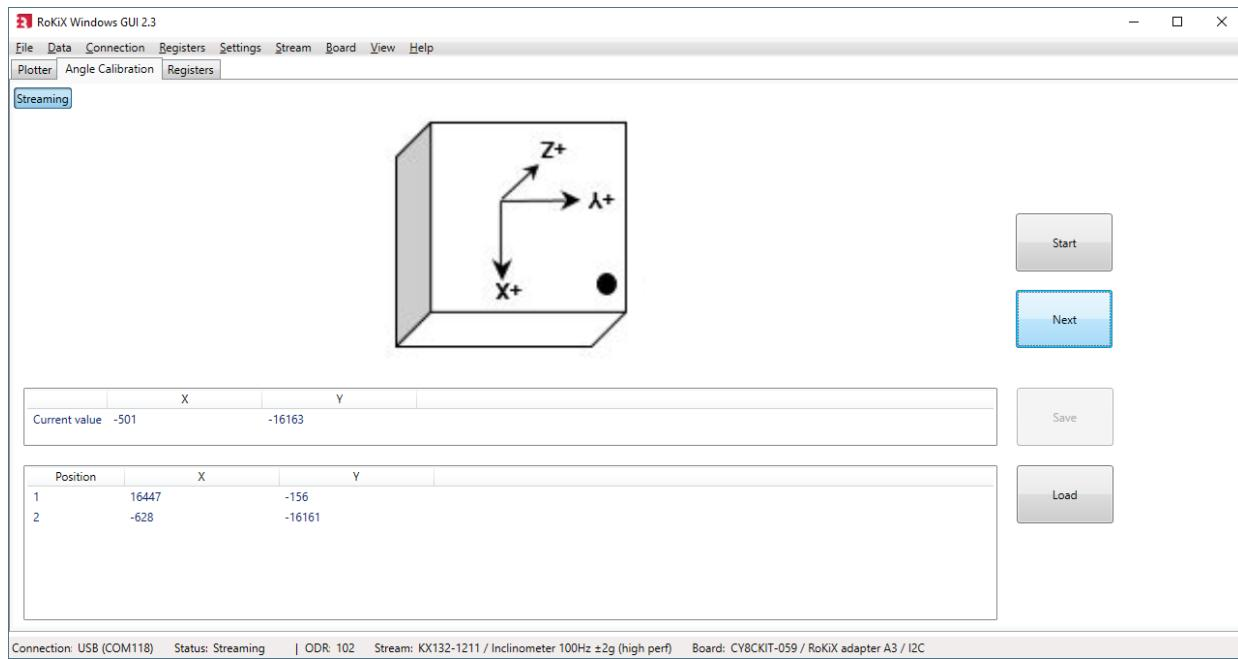

Figure 46: Angle Calibration. Position - 3
- Click Next and hold the device still until the diagram changes to the 3rd position (Figure 46)